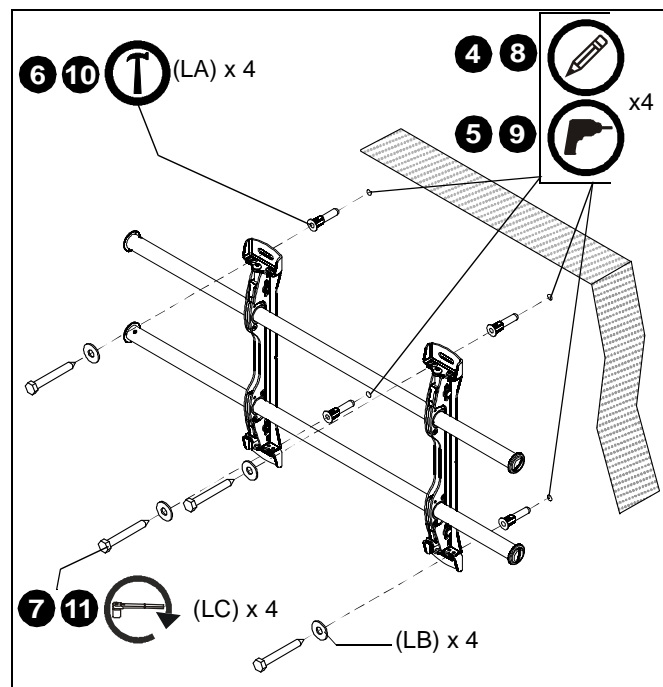

Figure 3
4. Using a level, mark the wall through both upper mounting slots. (See Figure 3)
6. Install an anchor (LA) into each pilot hole using a hammer.
7. Use two 5/16 x 2-1/2" lag bolts (LC) and two 5/16" flat washers (LB) to attach top of mount to anchors in wall.
8. Mark the attachment points for the lower mounting slots. (See Figure 3)
9. Drill one pilot hole at each marking for lower mounting holes. (See Figure 3)
10. Install an anchor (LA) into each pilot hole using a hammer.
11. Use two 5/16 x 2-1/2" lag bolts (LC) and two 5/16" flat washers (LB) to attach the mount to the wall through the lower mounting holes. (See Figure 3)